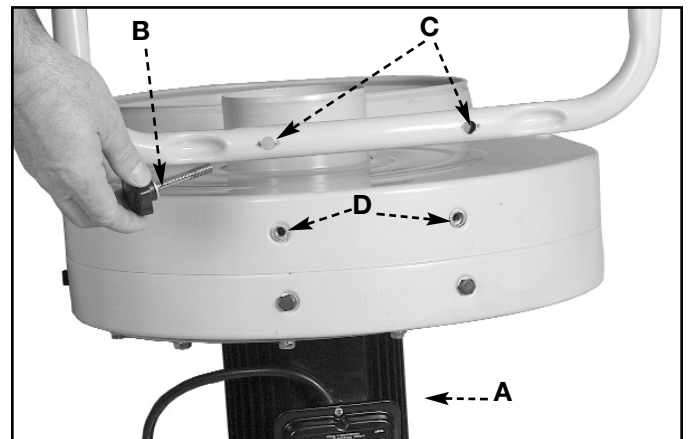

Fig. 2
1. Place motor/blower assembly with the motor (A) Fig. 2 down.
2. Place small 5/16" flatwasher on knob (B).
3. Align holes on legs (C) with holes (D) in the motor/blower assembly. Legs should extend up. Insert knob through hole in the legs (C) and into threaded hole in the motor/blower assembly (D). Tighten knob securely.